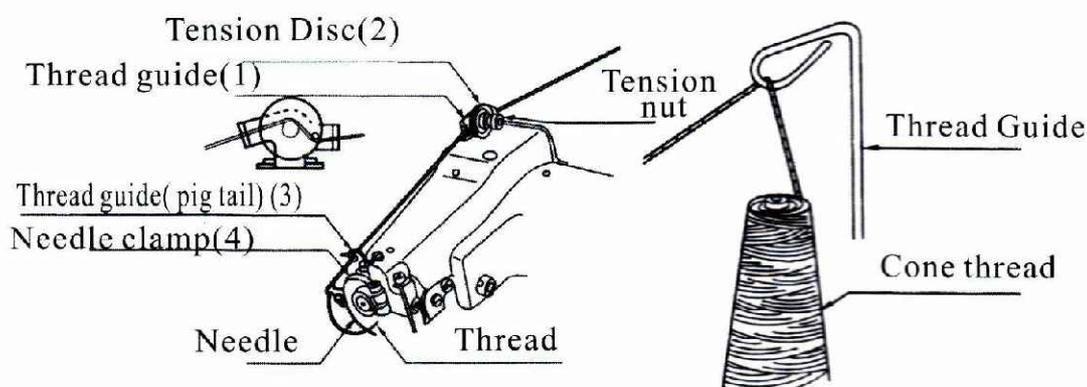

Fig.9
A. When using sewing thread from a cone, place it over plastic cup on the thread stand (Fig.9).
- C. For correct threading of machine, follow carefully course of thread As shown on Fig.9
When reaching to thread tension device, enter thread first in rear eye of thread guide(1). Then, lead thread between the two tension discs(2) as per Fig.9. Now enter it from behind through the front eye of thread guide. Lead thread forward to front of machine. Enter thread from above into thread guide(3),and eyelet of needle clamp(4).